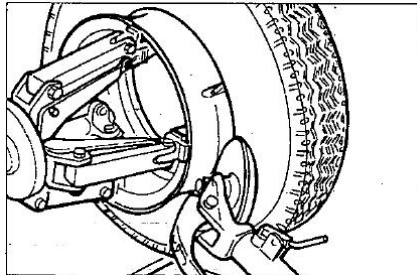

Fig.7.18
- 9) Turn the spindle and at the same time bring the bead loosener disk up against the tyre following the contour of the split-ring until the second bead has been broken (NB: Lubricate during this process). Continue to move the disk forward until about half the tyre has demounted from the rim (See Fig.7.18).